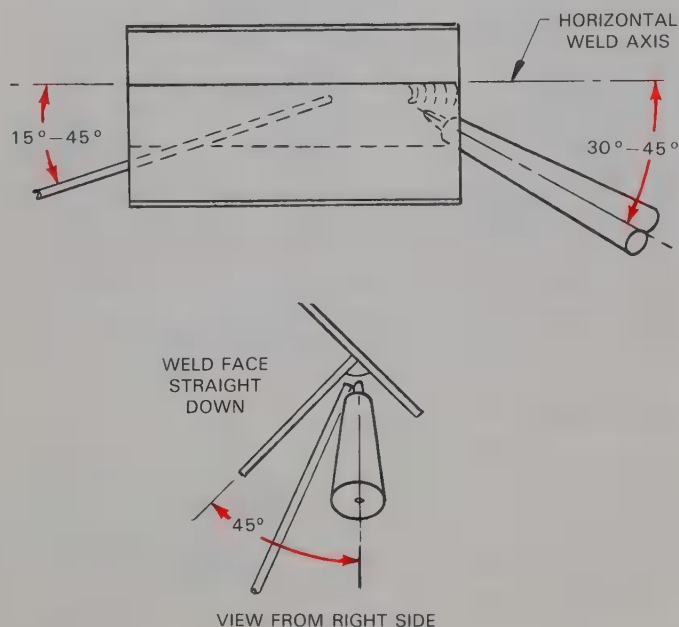

Fig. 7-24. The flame, torch, and welding rod positions used for welding a T-joint in the overhead position.
5. Hold the torch tip, flame, and welding rod at the suggested angles. Refer to Fig. 7-24.